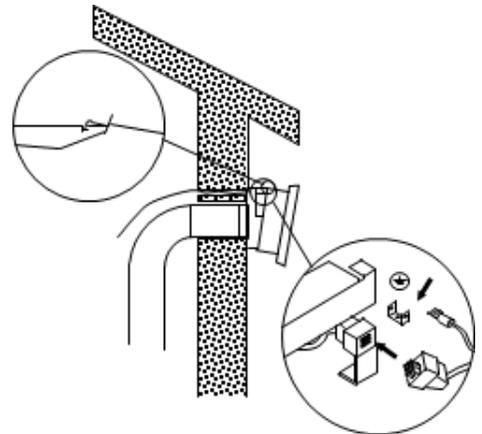

Fig 7
5. Connect motor connector to hood connector (Fig 7).